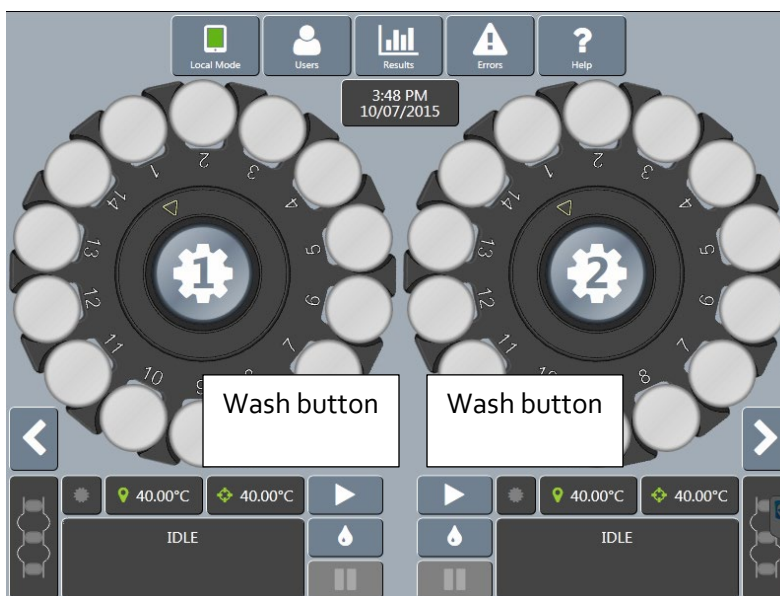

Figure 14 — Main Screen (Wash Button)
2. From the main screen, click the wash button  for the appropriate bath. The instrument immediately starts the wash cycle. See Figure 14.